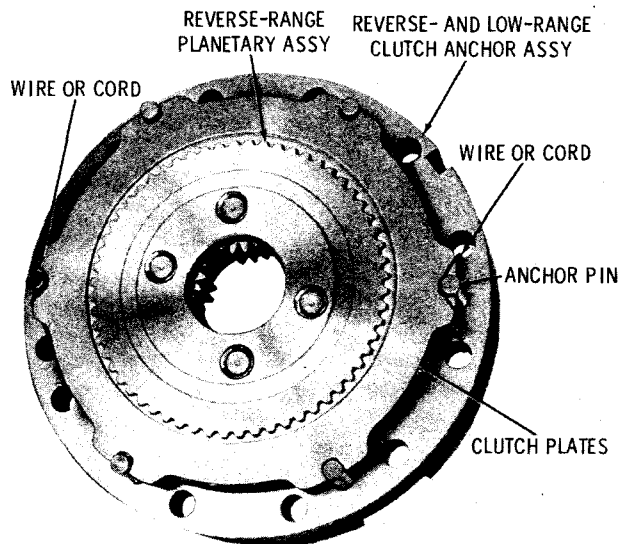

Fig. 7-48. Reverse-range clutch plates and planetary wired in position on reverse-and-low-range clutch anchor
(1) Special care is required to install clutch assemblies into a transmission mounted in the vehicle. Make sure that all clutch plates are properly engaged with their mating components, and that all clutch springs are properly positioned.
(2) The reverse-range clutch requires that the clutch components be installed as an assembled unit. The assembly of the reverse-range clutch components described in paragraph 7-4a(2) through (4) results in a clutch and planetary unit similar to that shown in figure 7-48.
(3) Using two wires or cords, tie the clutch plates to the clutch anchor assembly by passing the wires or cords over opposite tangs of the clutch plates, around the inner side of the anchor pins, and through the adjacent holes in the anchor (fig. 7-48). Secure the wire or cord ends at the under (rear) side of the clutch anchor.
(4) Install the entire assembly, clutch plates first, into the rear of the transmission, engaging the anchor pin slot with the anchor in the transmission housing. Remove the wires or cords and continue with the assembly procedures as applicable.